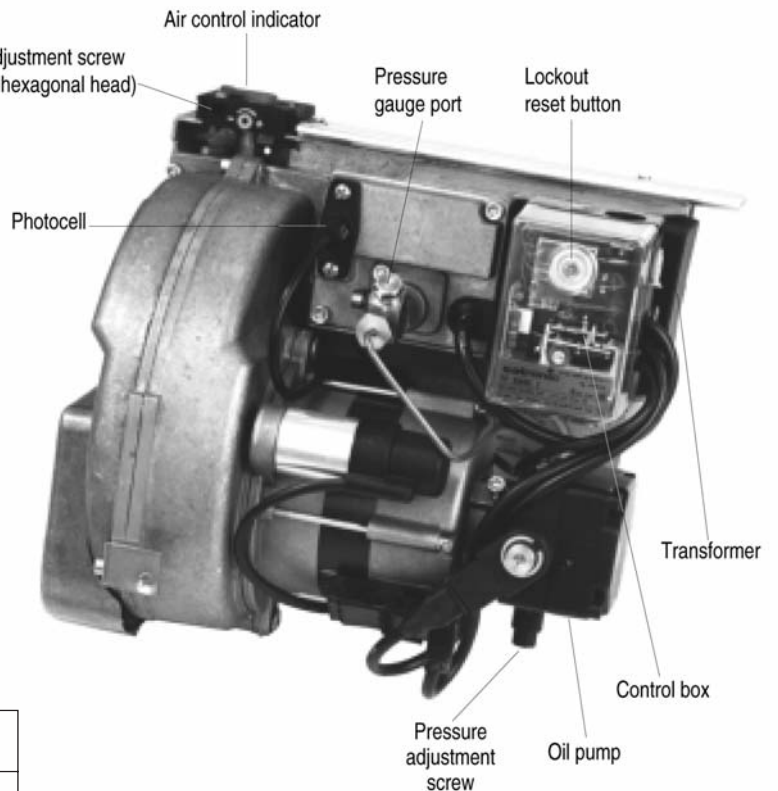

**Fig. 20. Electro Oil Inter B11 Burner.
12.7 Fit a pressure gauge and manifold to the burner pump at the point indicated in Fig. 9 or the pressure gauge port shown in Fig. 20 on the 20/25.
Note: In order that after-sputtering is reduced to a minimum during the commissioning period it is recommended that a pressure gauge only is fitted on the external pressure gauge port on the Electro Oil B11 (See Fig. 20). Use of a "T" piece pressure gauge manifold will increase the oil line volume and hence increase the degree of after-sputtering.